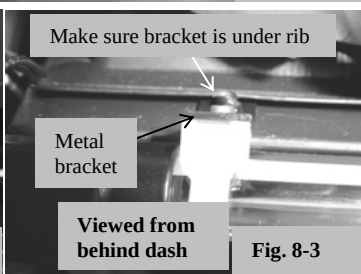

Fig. 8-3
- (2) Make sure the metal bracket is under the plastic rib and flush to the back of the panel when riveting. (Fig. 8-3)
- (3) The plastic mount faces down.
- (4) The rivets are inserted from the front of the panel into the brackets.